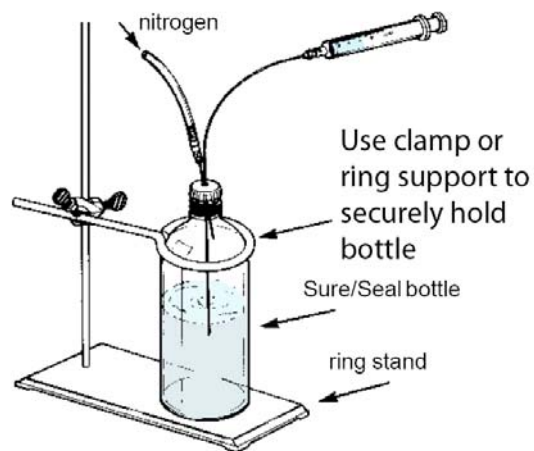

Fig. 2A Filling syringe using nitrogen pressure
- This will allow the liquid to slowly fill the syringe (up to 100mL) as shown in Fig. 2A. Pulling the plunger causes gas bubbles.